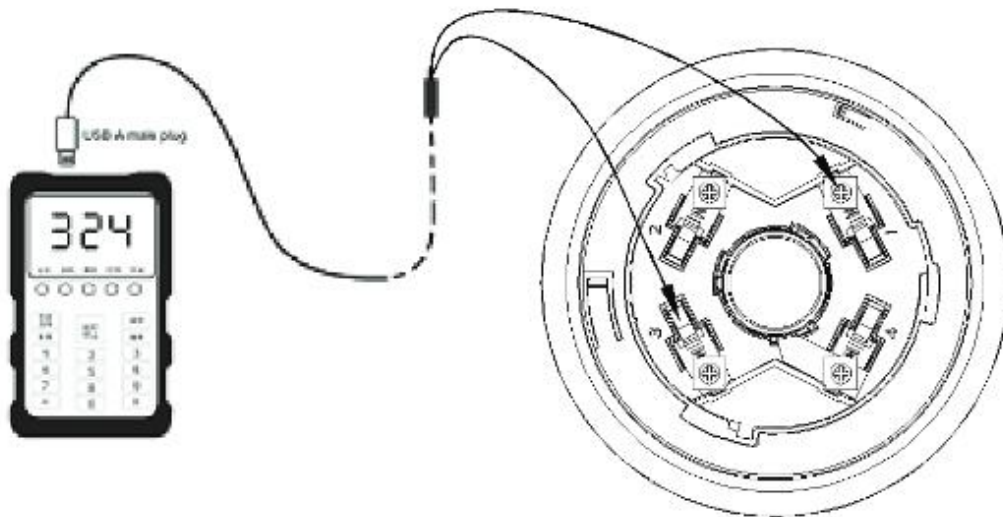

Fig. 3
2. Coding address: The Normal Base must be encoded address by a special coder (CODER-F900E) before the installation. Fig.3 shows the wiring diagram of the Normal Base and coder. After wiring, press the “#” key to select “324” mode, set the coder with the coding function, then select the correct address number and press the “RUN/STOP” key to complete the address code setup. (Note: See the User’s Manual of the coder for the detailed operation.)